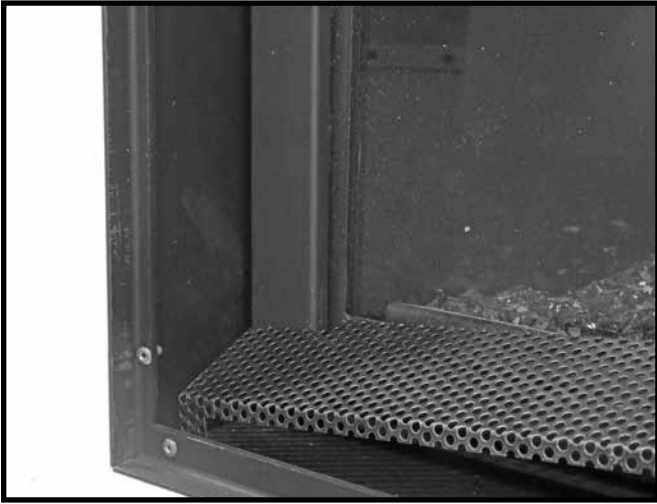
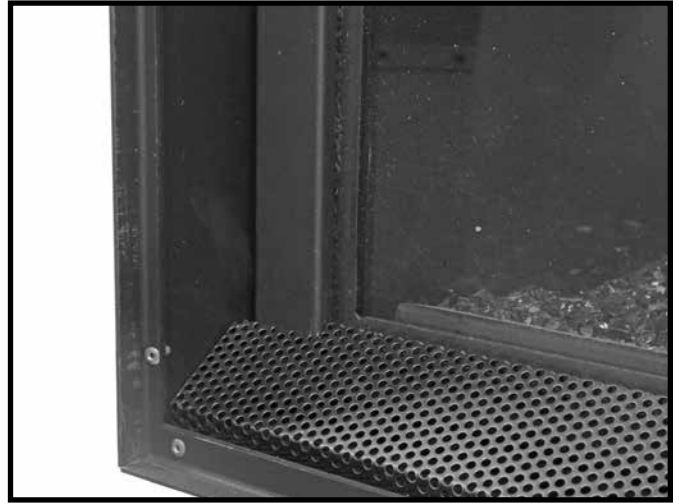

Figure 62: Installing bottom trim.
Figure 63: Bottom trim in place.
- The meshed trim piece for the bottom rests on the floor and in the gap between the frame and the glass fireplace door (Figure 62 and Figure 63)